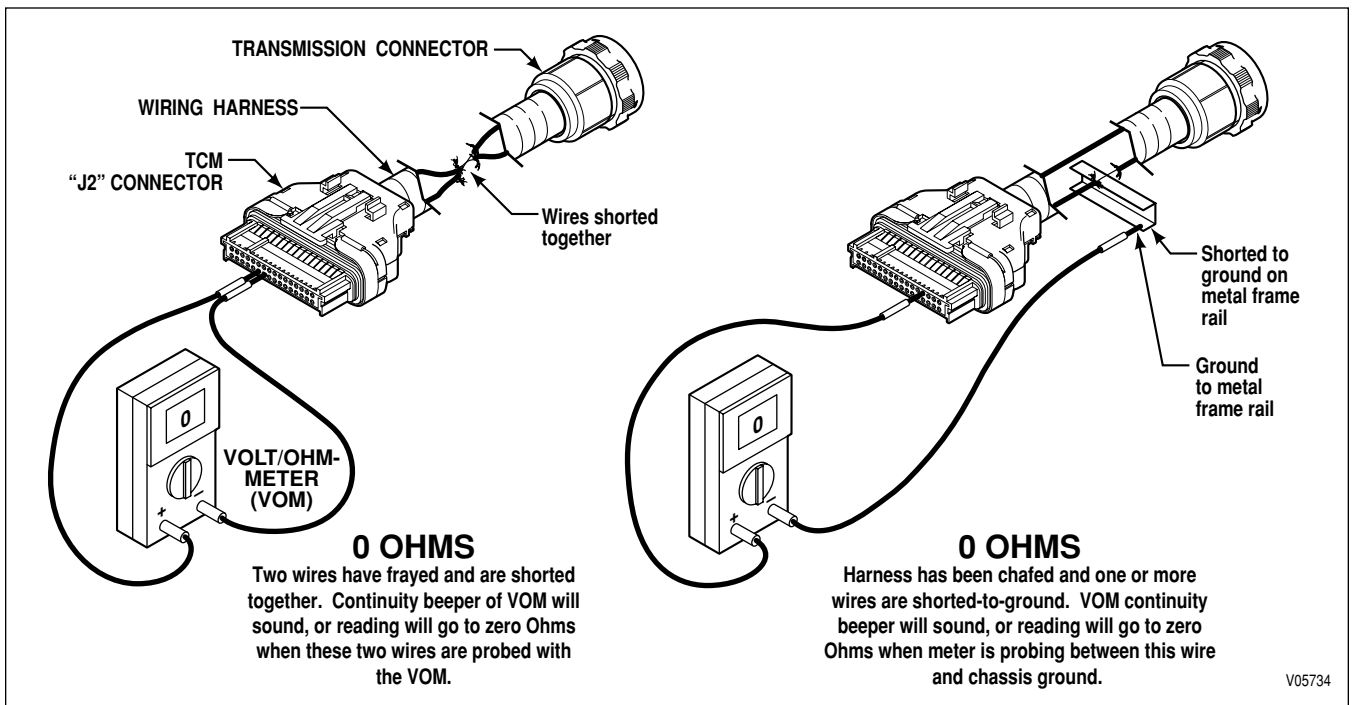

Figure 4–2. Short Between Wires and to Ground (External Harness)
- (2) On the opposite end of the harness, check the continuity of the jumpered pair. No continuity in a jumpered pair circuit (infinite resistance reading) indicates an open in the wire being tested. Refer to OEM wiring harness repair procedure.
- b. If the continuity check is good (0–2 Ohms resistance), remove the jumpers. Check the harness for shorts between wires and shorts-to-ground by performing the following (refer to Figure 4–2):
- (1) At the TCM end of the harness, touch one VOM probe to one wire of the circuit being tested and touch the other probe to each terminal in the same connector, then touch the probe to chassis ground and to the transmission main housing. Do this for both wires in the circuit being tested.
- (2) If at any time the VOM shows zero to low resistance, or the meter's continuity beeper sounds, there is a short between the two points being probed — wire-to-wire or wire-to-ground. Isolate and repair the short.